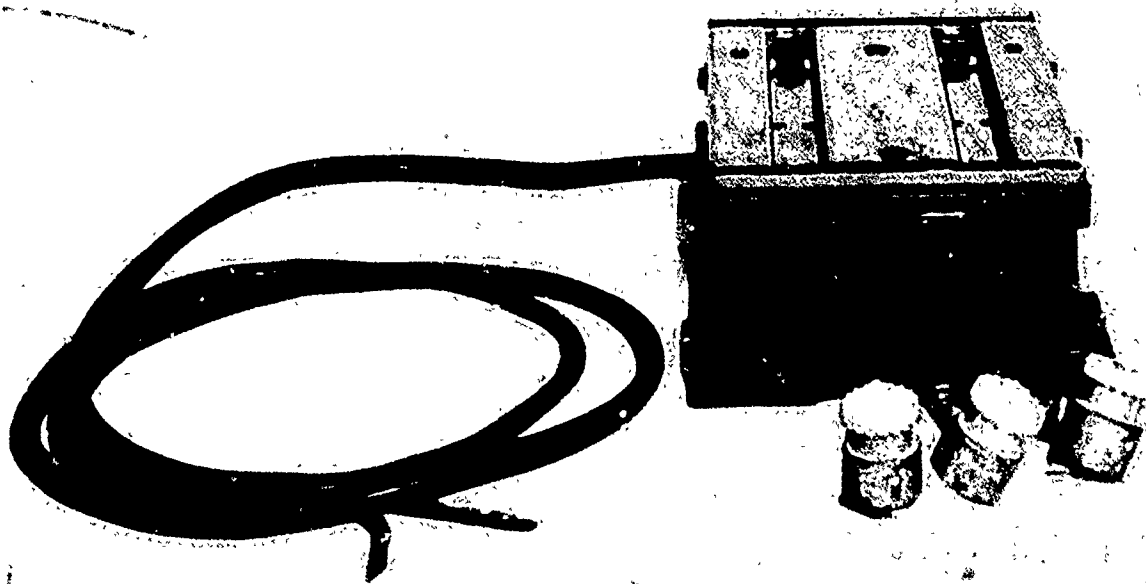

Figure 4-5. Mount MT-300/GR.
- (4) MT-300/GR (AN/VRC-7). (Figure 4-5)